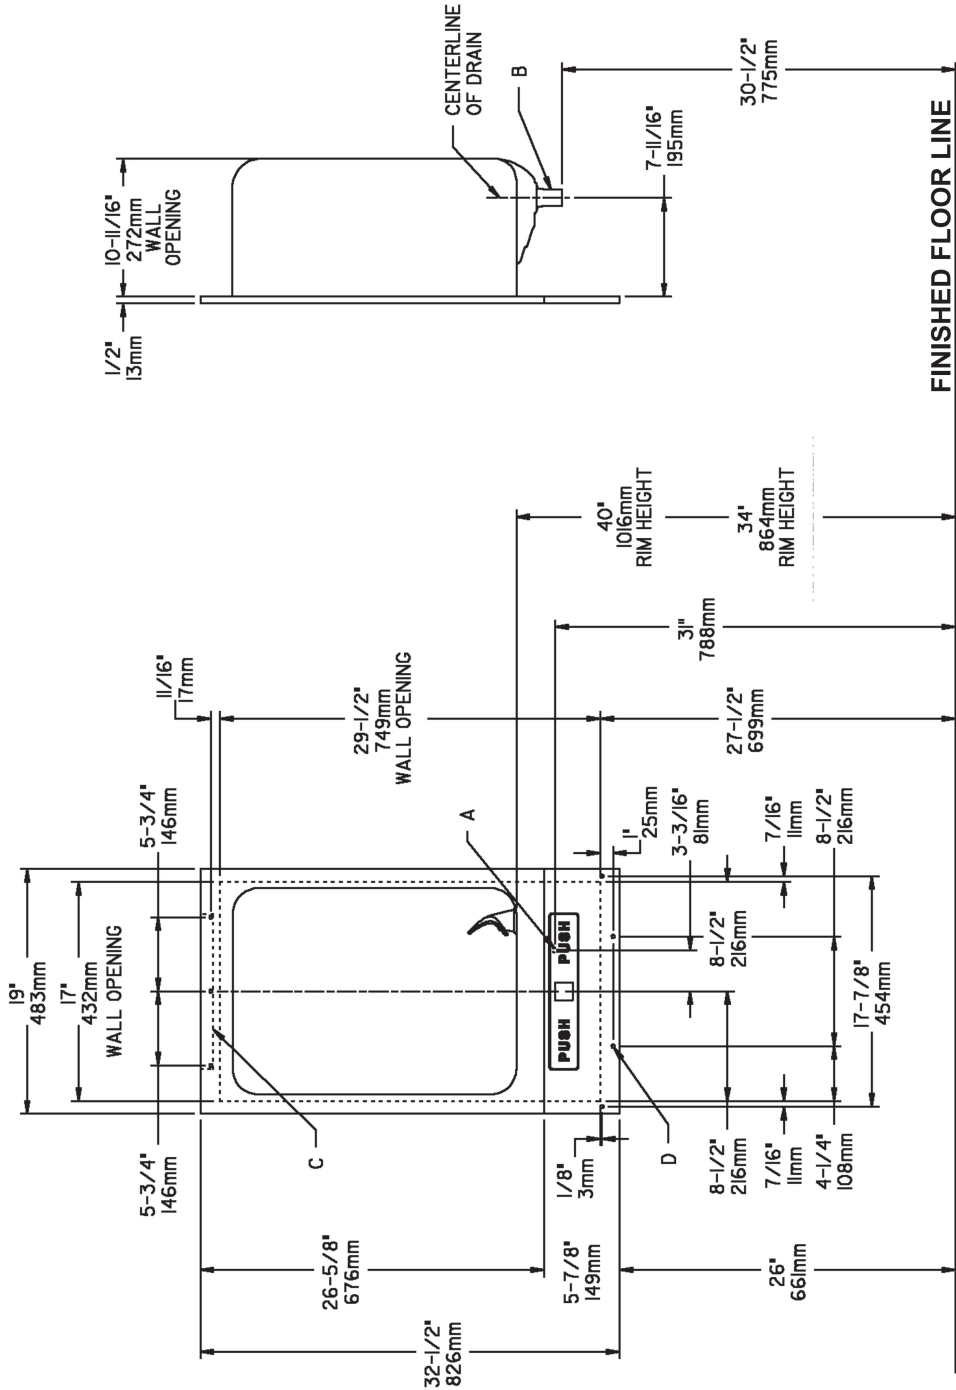

FIG. 1
1. **Prepare** wall opening(s) and attach wall hanger bracket(s) for the fountain (and cuspidor when applicable) using dimensions shown in Figures 1 and 2.